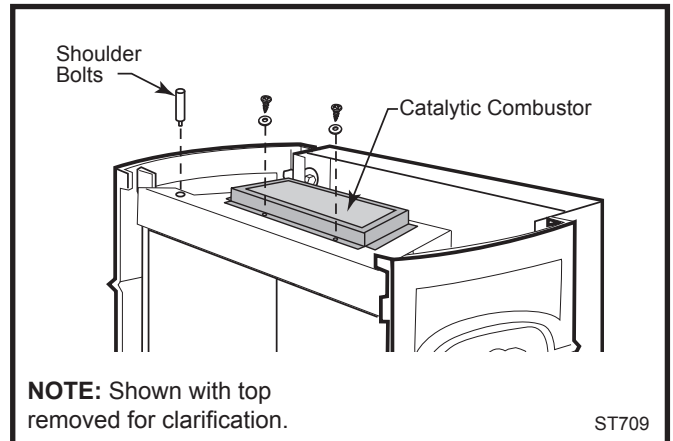

Fig. 15 Install shoulder bolts and set catalytic combustor in place.
6. Slide the catalyst through the grille opening. Set catalyst on top of firebox. Secure with two (2) screws and washers. (Fig. 15)
7. Shoulder bolts provided in catalyst kit must be installed on top of firebox. Use nut to secure in place. (Fig. 15)